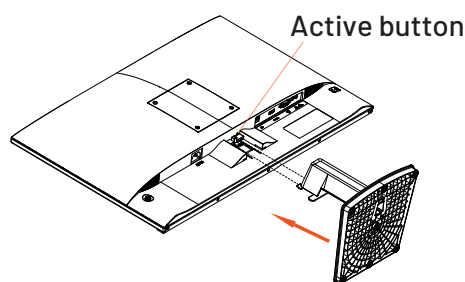

Figure 2
2. Insert the assembled base into the corresponding slot on the machine as shown in Figure 2. Continue until a click sound is heard, or the upper surface of the active button shown in the figure is level with both sides, as depicted in Figures 2 and 3.